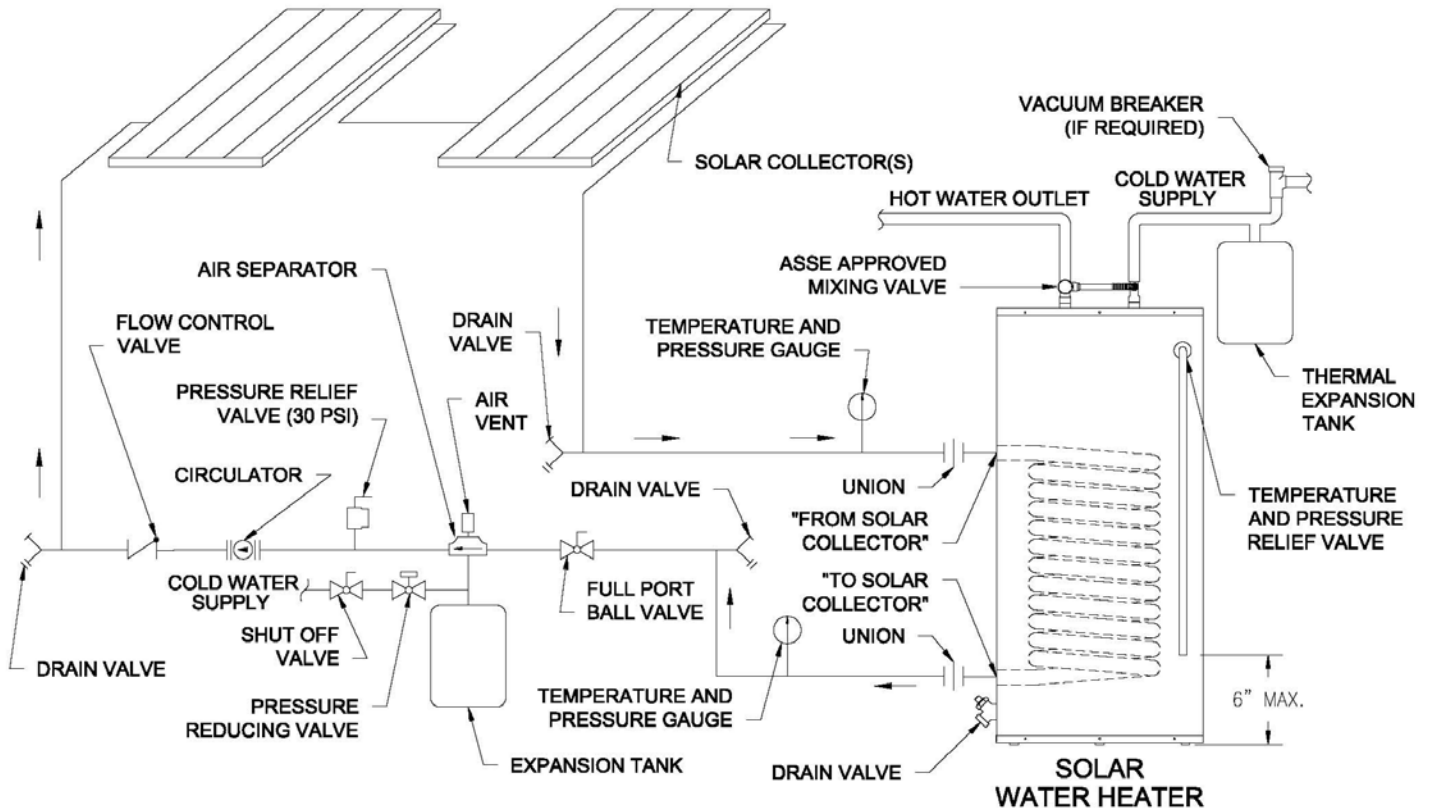

Figure 3 – Solar Collector Piping in Closed-loop Installation
1. For a closed loop solar heating system, refer to Figure 3. The solar water heater connection labeled "FROM SOLAR COLLECTOR" should be piped to the solar collector supply piping. Mount the circulator making sure the flow arrow points toward the water heater. The use of shut-off valves and unions are recommended for future service convenience. The use of an air separator and vent is recommended to eliminate air in the system. Pipe and fittings between the solar collector and solar water heater must be ¾" diameter or larger.